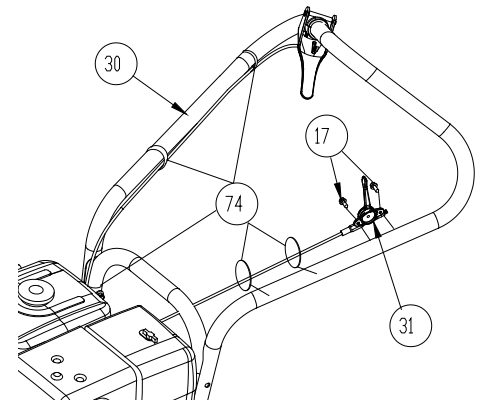

Fig. 2
2. The throttle control will be attached to the throttle arm on the engine and wrapped around the engine for shipping. Unwrap and secure throttle control (item #31) to upper handle with screws (item #17). Screws will already be mounted in handle. Simply remove and use to mount the throttle control securing the cable with two Ty-wraps (item 74). The Aim-and-Shoot™ is not attached, you will need to unroll the cable and attach the ball end to the lever and seat the cable end into the hole on the saddle clamp, with the cable running through the slot. To keep the cable from being damaged use three ty-wraps (item 74) to secure it to the handle as shown making sure that the cable is not rubbing against the tire. Note: the cable should be seated properly in the saddle and should follow the contours of the handle. (See Fig. 2)